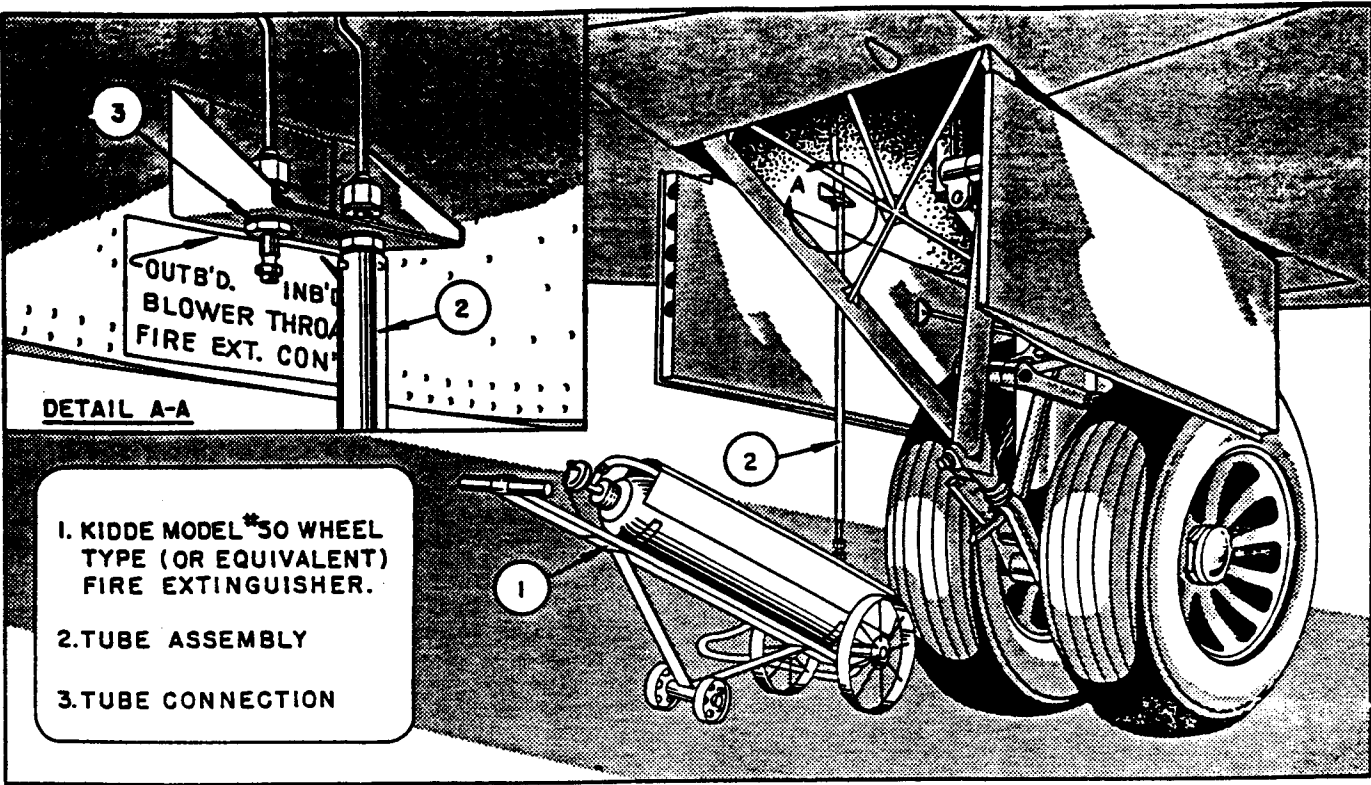

Figure 12. Blower Throat Fire Extinguisher System
(1) GENERAL. (See figure 12.)- For maximum protection when starting an engine this system adapts a cart type ground fire extinguisher to discharge directly into the engine blower throat.
(2) INSTALLATION OF ADAPTER.- Remove discharge horn from Kidde Model #50 wheeled type fire extinguisher (or equivalent) where the horn fastens to the hose. Screw on Northrop tube assembly #558668-2 in place of horn.
(3) OPERATION.